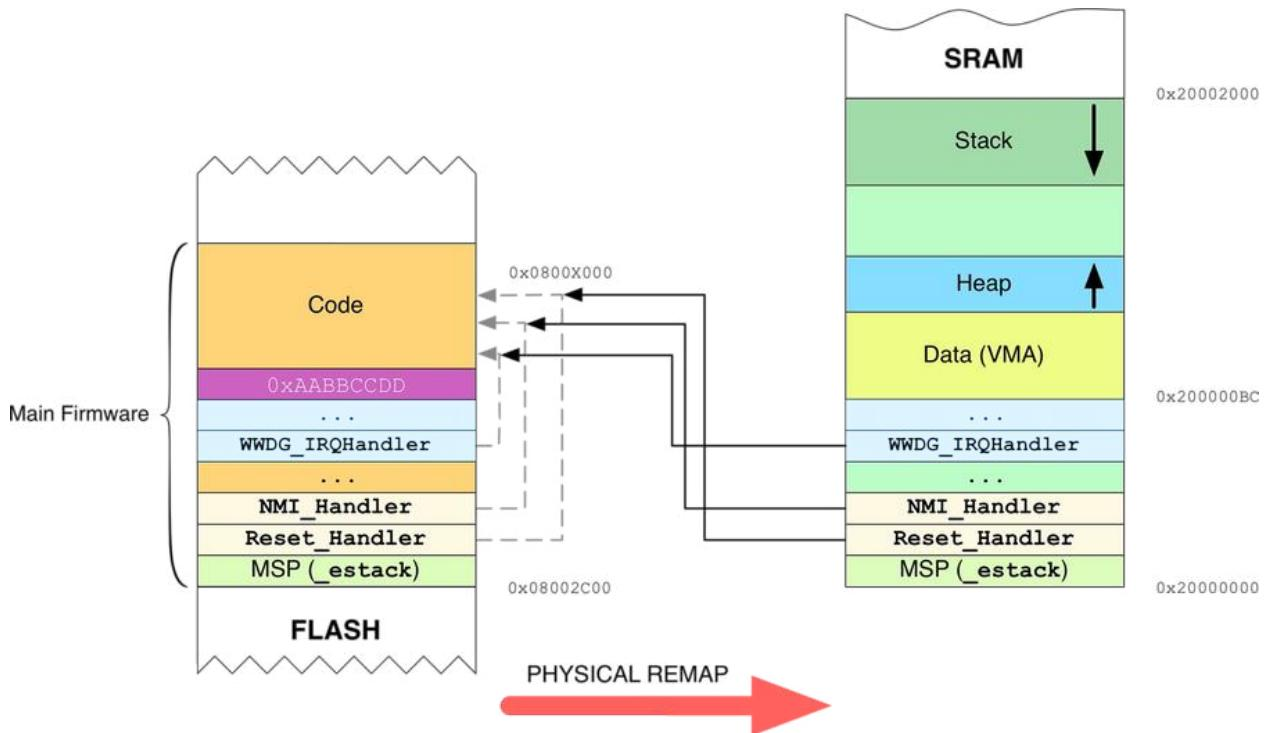

Figure 7: How the *vector table* can be relocated in STM32F0 microcontrollers
**Figure 7** tries to represent this procedure. On the left side we have the main application (the bootloader is not shown). Let us suppose for the sake of simplicity that its *vector table* is placed at the address `0x0800 2C00`. This means that, starting from the address `0x0800 2C04` we have the address in memory of Cortex-M0 exception handlers and ISRs. Clearly, these addresses point to other memory locations above the `0x0800 2C00` address (in **Figure 7** they are represented as grey arrows).
The bootloader works in the following way. It copies the *vector table* inside the SRAM memory, starting by placing its content from the initial address `0x2000 0000`. This means that from the `0x2000 0004` memory location we have the addresses in flash memory of exception handlers and ISRs. Clearly, these addresses still point to the same original flash memory locations, as indicated by black arrows in **Figure 7**. At the end of the copy procedure the memory is remapped, so that the
There are several things to note. First of all, to simplify the copy process and to avoid that the *vector table* is overwritten by the growing stack, the *vector table* is copied in SRAM starting from its beginning, and the rest of the application data (formed by .data section, .bss, heap and stack) is placed next (see **Figure 7**). This requires that the linker script of main firmware is properly configured, as shown below: